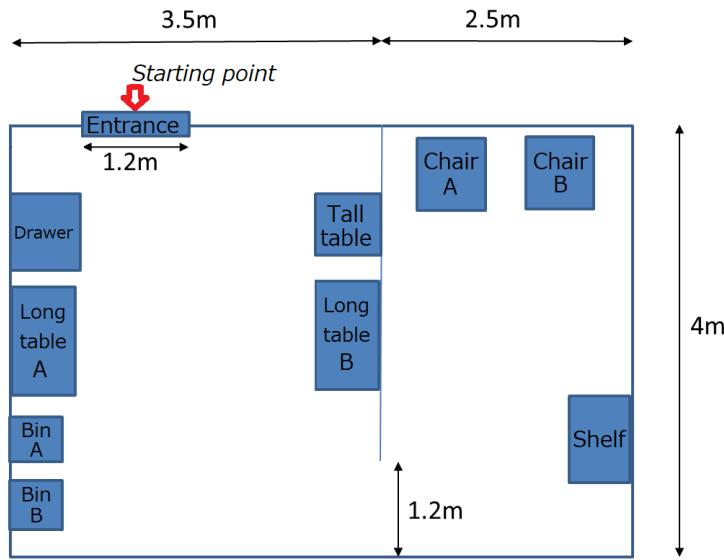

Figure 4: Test arena layout. The red arrow indicates the starting point at the beginning of the competition or after a restart.
- The room layout and furniture positions will be as in as in Figure 4 and the furniture models are presented in Appendix 4.1.